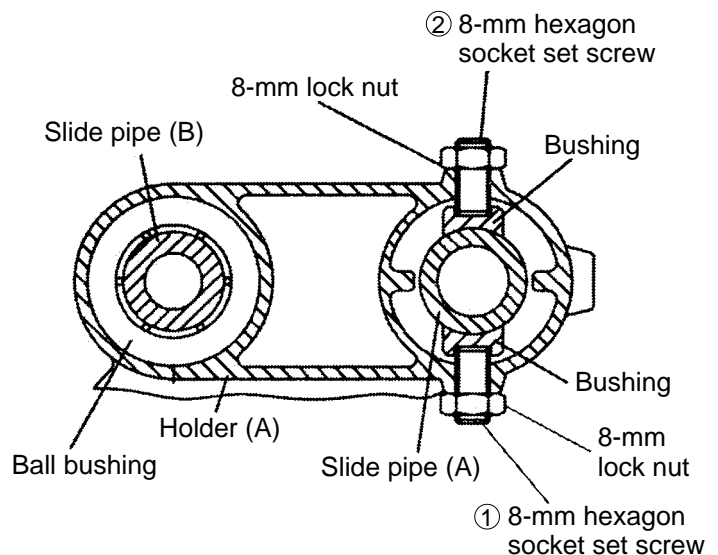

Fig. 51
After extended use, there may be some looseness between slide pipe (A) and holder (A) because of worn bushings (slide bearings made of resin) on slide pipe (A) portion. If abnormal looseness is noted, perform adjustment as described below. (See Figs. 51 and 52.)
- (1) Loosen the two 8-mm nuts and loosen each of the two 8-mm hexagon socket set screws (① and ② in Figs. 51 and 52). This will free slide pipe (A) so that it comes to rest on the lower surface of holder (A) hole [31 mm (1-7/32") dia.].
- (2) Gently tighten the 8-mm hexagon socket set screw ① until it lightly contacts slide pipe (A), then turn it two-fifths of a turn and lock it in position by tightening the 8-mm lock nut. (This positions slide pipe (A) in the center of the hole.)
- (3) Next, tighten and adjust the 8-mm hexagon socket set screw ② so that slide pipe (A) will slide smoothly, and lock it in position with the 8-mm lock nut. (The pressing force required for sliding should be within 2 to 3 kg.)